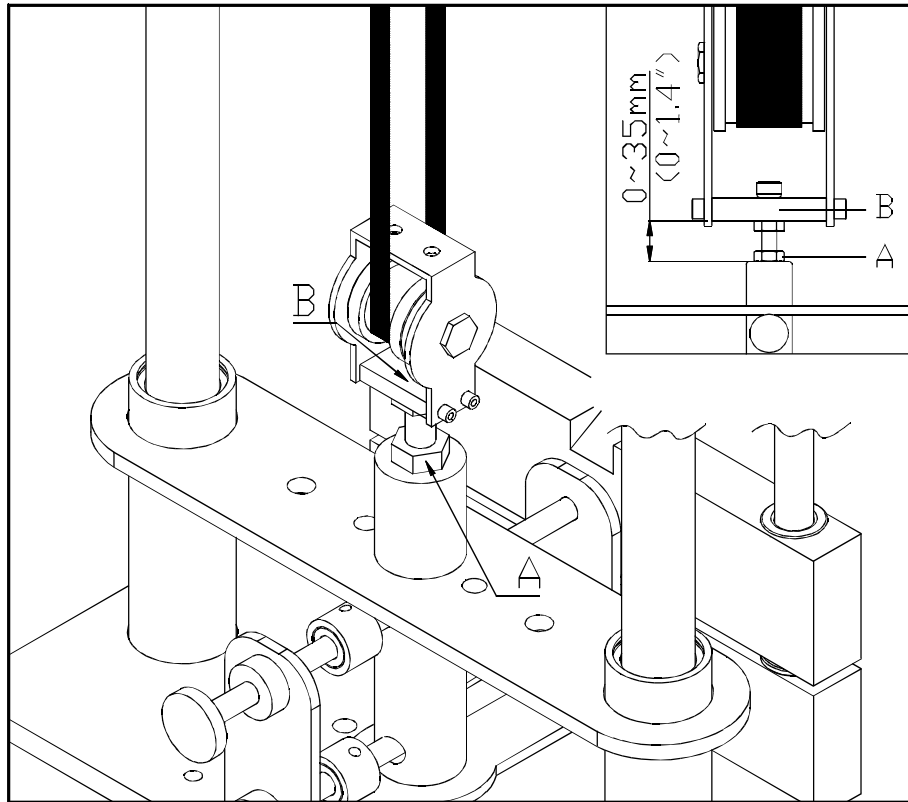

Fig.5
1. If the belt is too tight or too loose, first loosen nut A as shown then adjust nut B. If the belt length is too long , adjust downward; if the belt length is too short, adjust upward. Adjust the belt to the proper position, then tighten nut A. (The gap between nut A and B must be within 35mm. (See fig.5)